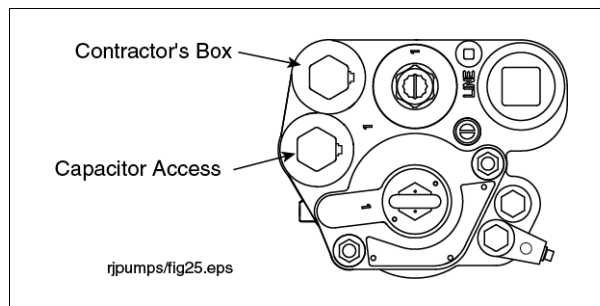

Figure 43. Locating Contractor's Box And Capacitor Compartment
1. Remove capacitor access cover (see Figure 43).
1. Remove the contractor's box cover (Figure 43 on page 48). Remove and discard the o-ring from the cover. Set aside the cover.